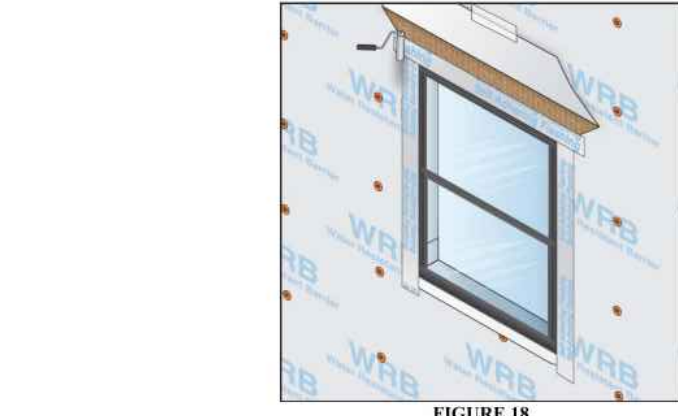

FIGURE 18
7.4.6 Adhere the self-adhering flashing with firm pressure (use of a J-Roller is recommended) across the head of the window on top of the mounting flange and beyond the rough opening on each side extending it 50 mm (2 in) over the outside edge of the flashing at the jambs (see Figure 18).